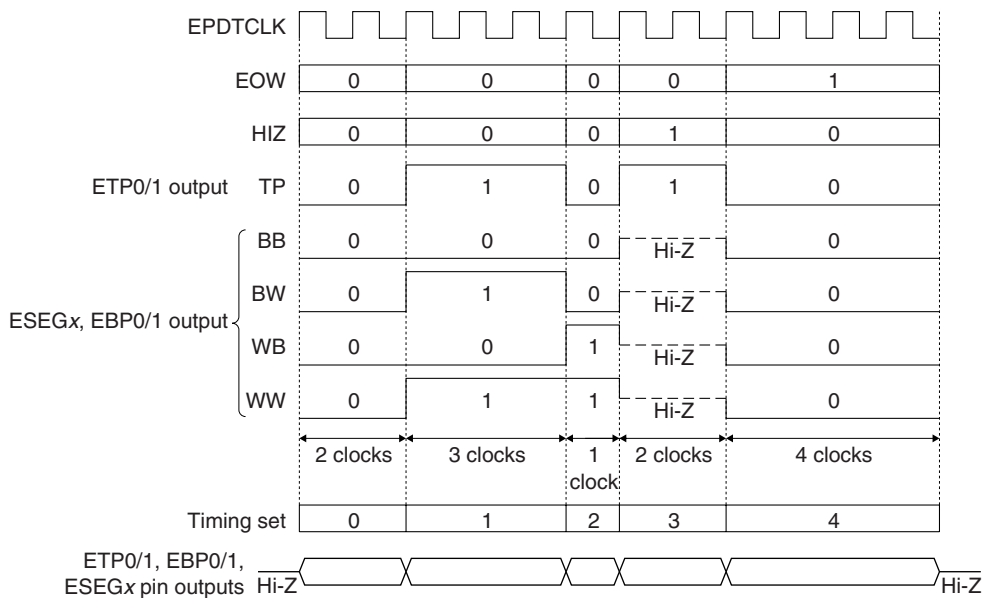

Figure 20.6.1 Example of display waveforms (by settings in Table 20.6.2)
**Note:** Table 20.6.2 and Figure 20.6.1 show merely an example to explain relationships between the settings and waveforms, not those that can be used for actual EPD driving.